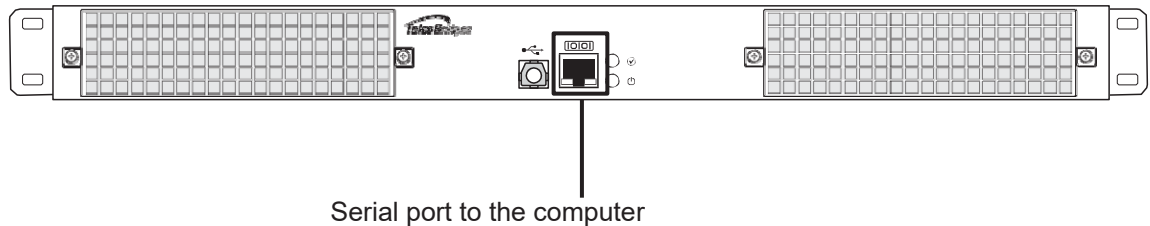

Figure 3.3
1. Connect one end of a CAT5 RJ-45 (male-male) cable to the Tmedia serial adapter (both supplied with unit). Connect the DB9 to RJ-45 to the serial port of the computer and the other end of the CAT5 RJ-45 (male-male) cable to the serial port (labeled 10101) of the 800 series gateway as shown in figure 3.3 on page 44. See Section A.2 “Tmedia Serial Adapter Wiring Diagram” on page 52 for a RJ-45 pin out description.